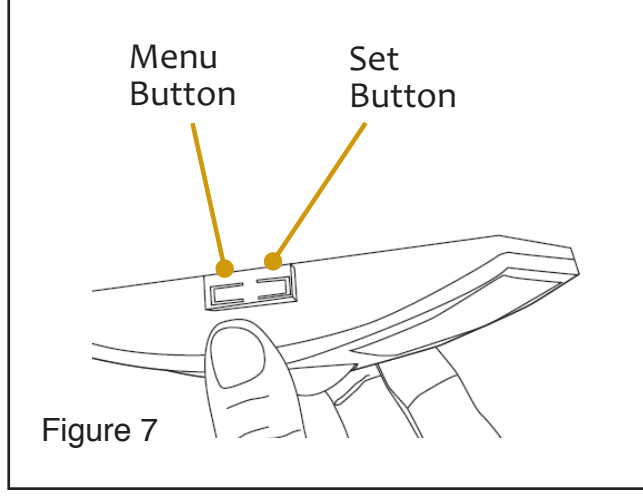

Figure 7
2. Click the Menu button on the side of the sensor once. This sends a associate/disassociate radio telegram (see figure 7). **NOTE:** The button interface on the sensor is used for associating and testing only. The occupancy timer settings are configured on the transceiver to which the sensor is associated.